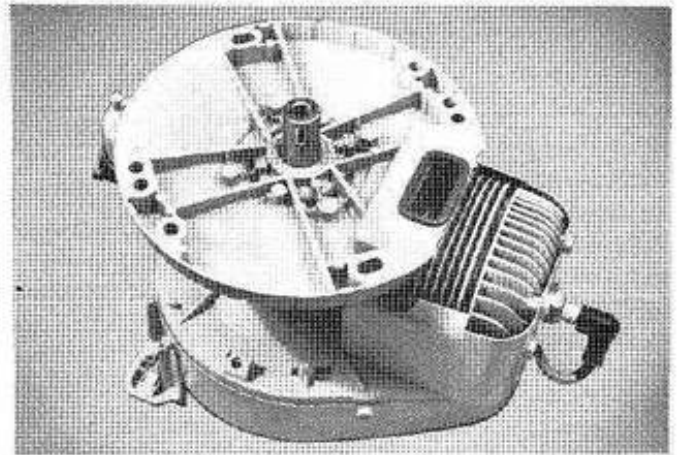

Figure 84. Vertical Crankshaft Engine.
- c. The same procedure can be used to disassemble a vertical crankshaft engine. (See Figure 84.)